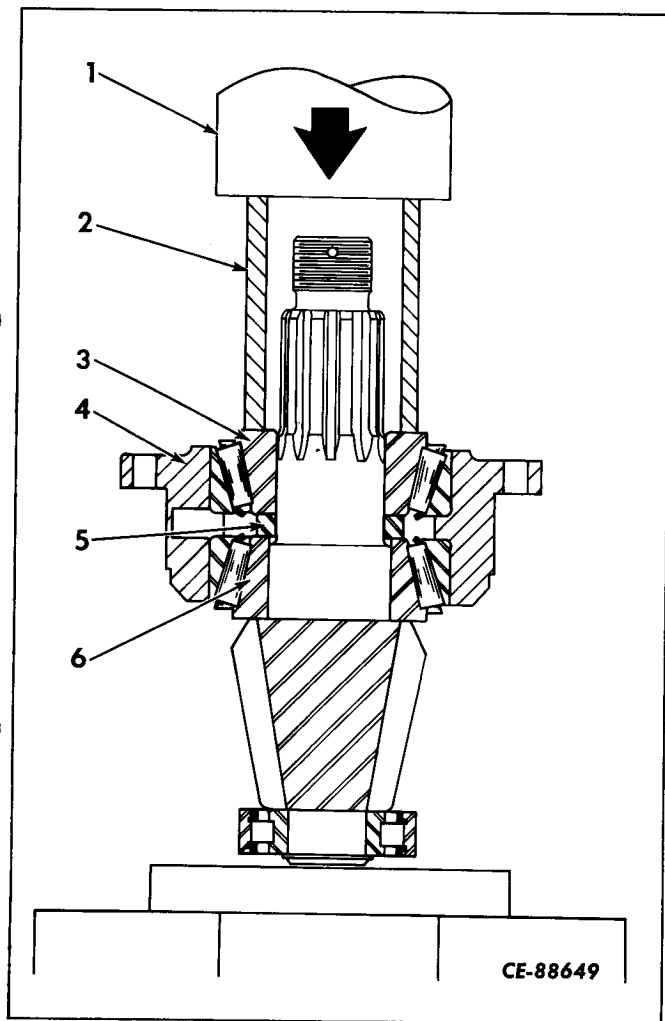

Figure 6-50
Install spacer (5, Fig. 6-50) on pinion shaft and place entire assembly in bearing cage (4).
With cage and pinion assembly in press (Fig. 6-50) check bearing preload torque (refer to "SERVICE INFORMATION" under "TOLERANCES" for correct press tonnage). If press is not available, the pinion nut may be tightened to the recommended torque (refer to "SPECIAL TORQUES" under "SERVICE INFORMATION") and preload checked.